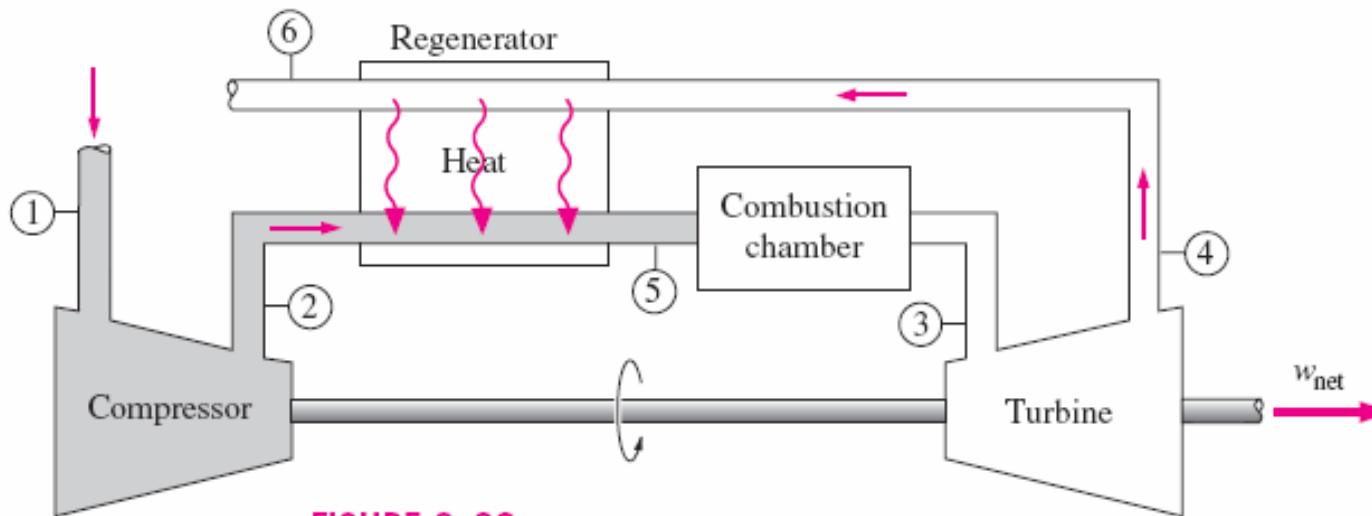
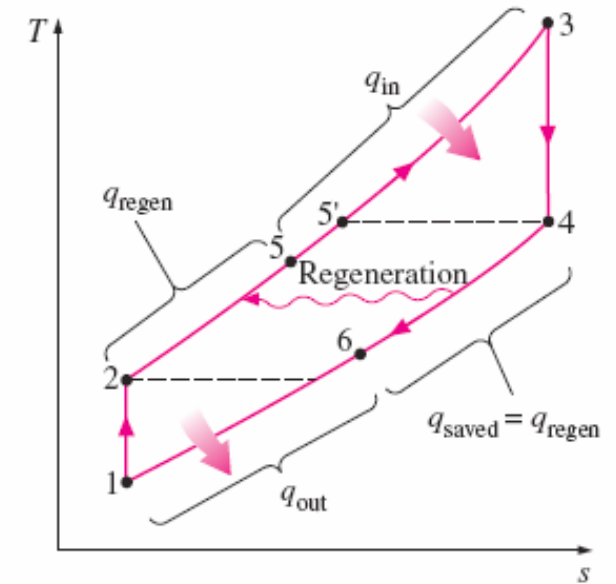

FIGURE 9-38
FIGURE 9-39
- The air leaving the compressor can be heated by the hot exhaust gases in a **counter-flow** heat exchanger (a *regenerator* or *recuperator*) – a process called **regeneration** (Fig. 9-38 & Fig. 9-39).